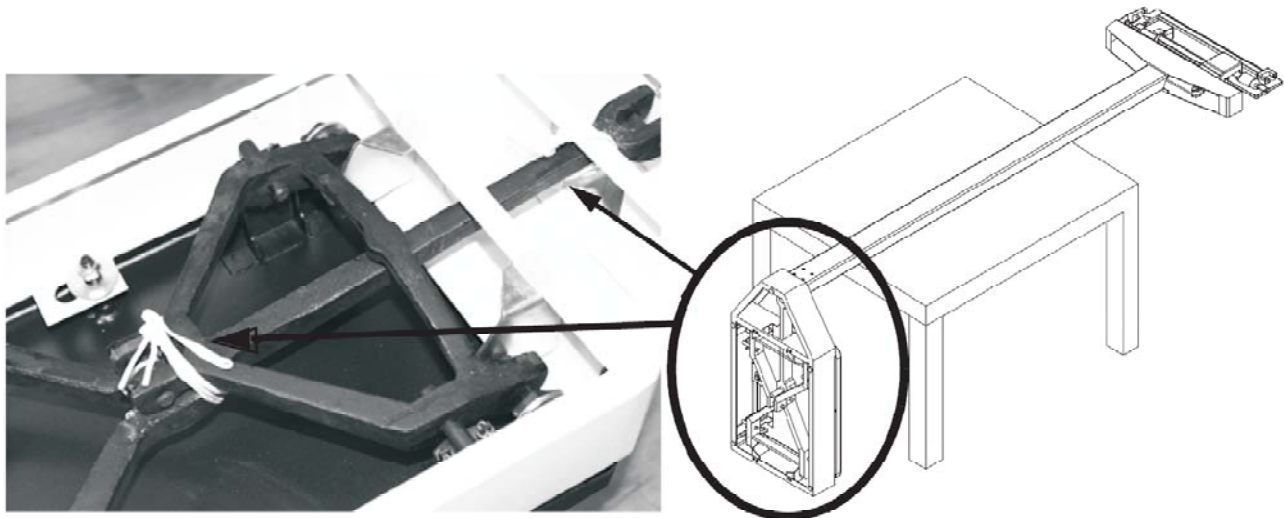

Figure 4. Lay Scale on Table to Access Bottom of Scale
- Lay the scale on a table. Remove and discard the shipping tie wrap wires on the underside of the scale carriage as shown in Figure 4.